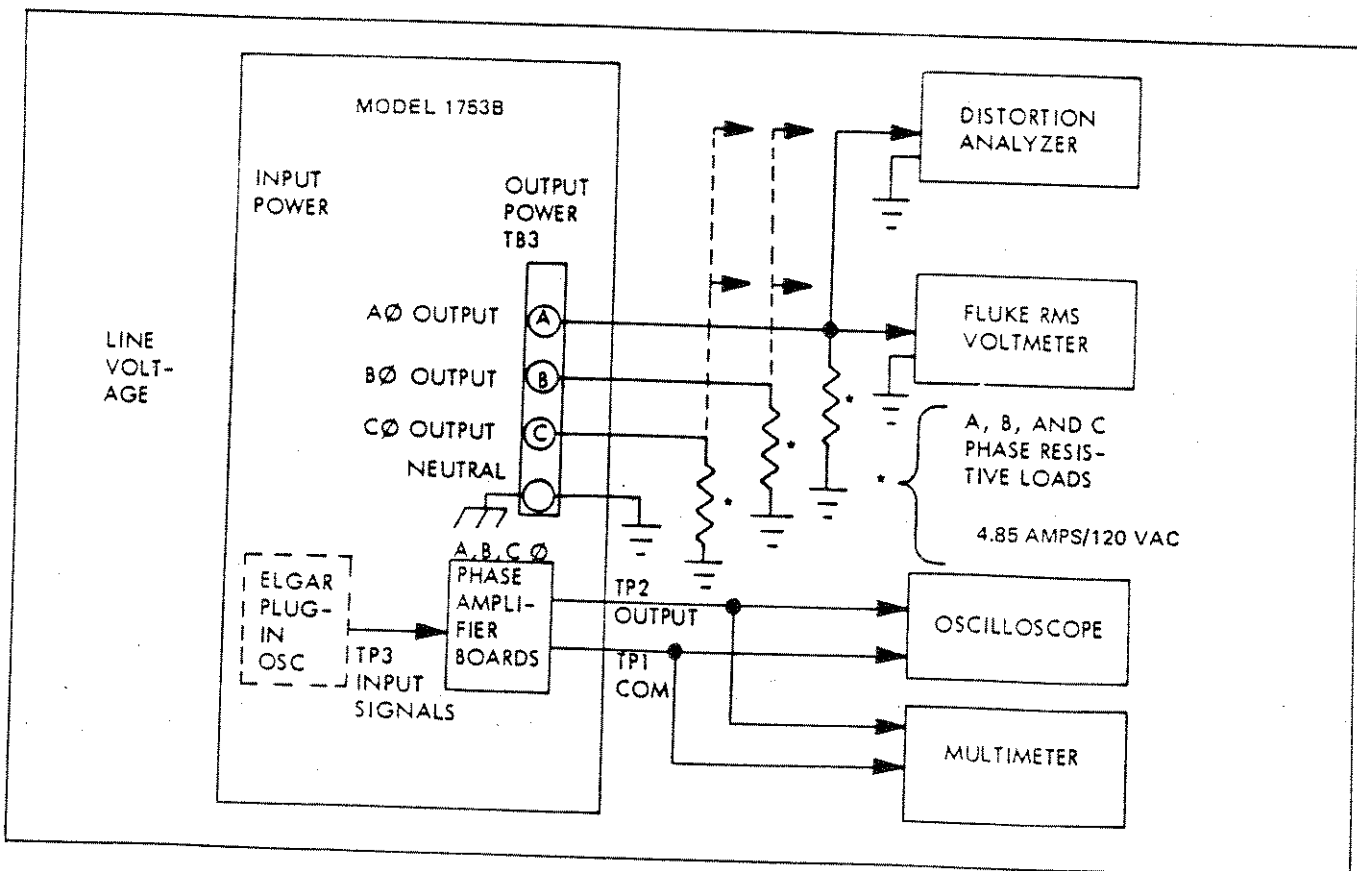

Figure 5-4. Test Setup
3. Check NPN transistors in heatsink assemblies No. 1 and 2 (six heatsink assemblies total) for shorted transistors. At each heatsink plug (see Figure 5-4), connect negative lead on pin 1 and positive lead on pin 7 and verify resistance is infinite. Reverse leads and verify resistance is 100 - 300 ohms. If the multimeter reads a direct short, the transistor(s) in the heatsink is shorted and must be replaced.